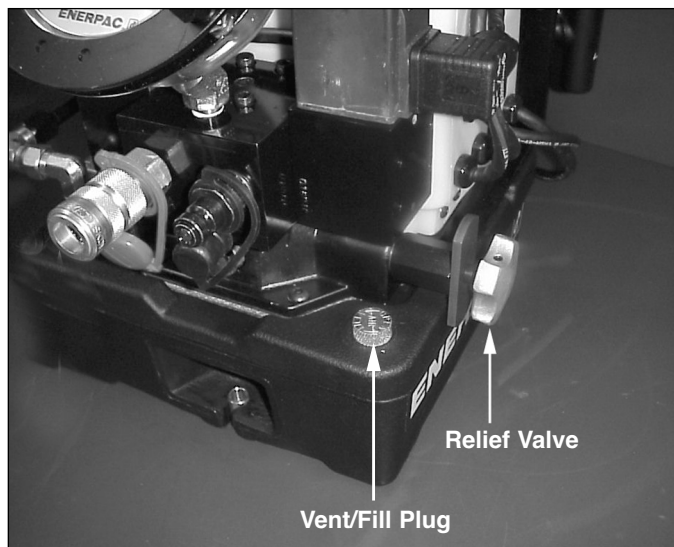

Figure 1 - Relief Valve
4. Loosen locknut and back out (turn counter-clockwise) relief valve to prevent unintended pressure build-up. No tools are needed to adjust the relief valve. See Figure 1.
- Loosen locknut and back out relief valve to prevent unintended pressure build-up. See Figure 1.